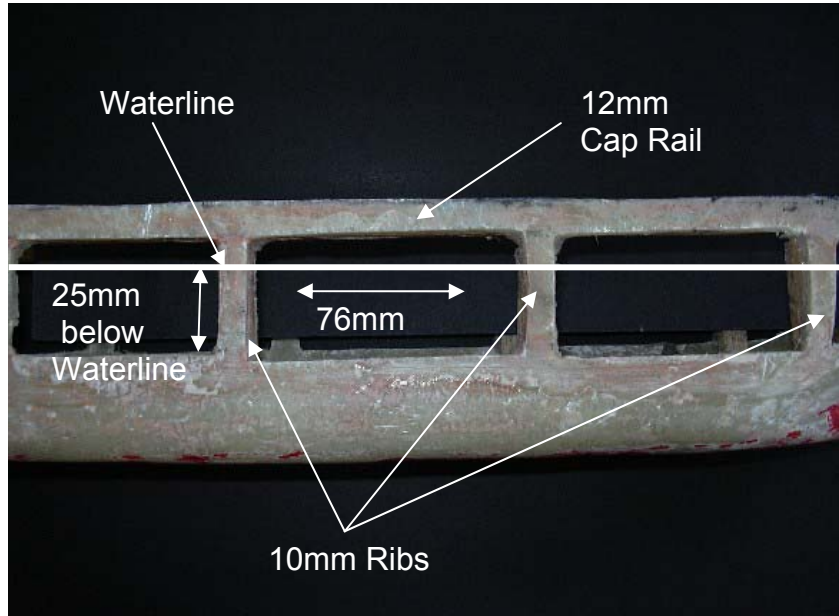

Figure 7
1.12.1.1. Window height is defined as all points below the cap rail to a point 25 mm below the waterline, as in Figure 7, or to the turn of the bilge.